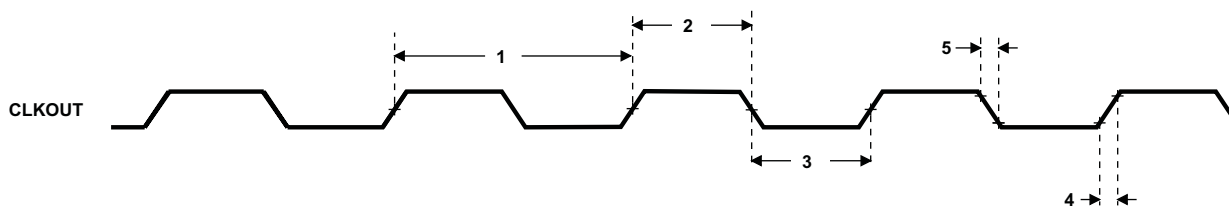

Figure 5-10. CLKOUT Timing
Table 5-5. Switching Characteristics Over Recommended Operating Conditions for CLKOUT(1) (2) (see Figure 5-10)